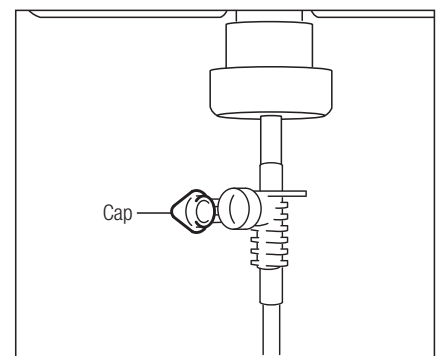

Fig. 12
- 5) Open the cap to let air into the Pack. (Fig. 12)